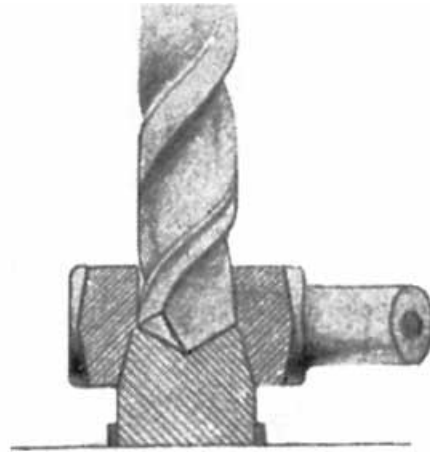

Fig. 192. Connector Drilled to Correct Depth
- (b) Do not drill too deep. Make each hole just deep enough so that the connector will come off easily. Fig. 192 shows a cross section of a post and connector drilled to the proper depth. Notice that you need not drill down the whole depth of the connector, because the bottom part is not burned to the post.